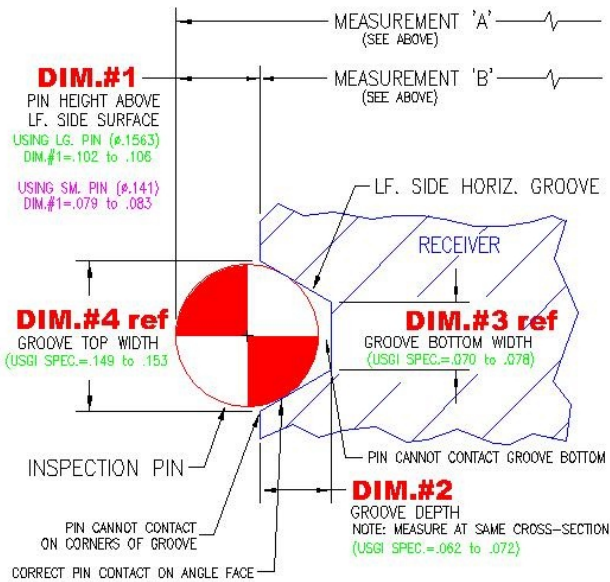

FIG. 2
5) FIND DIM.#2 BY MEASURING THE DEPTH OF THE GROOVE USING A 6" DIAL CALIPER OR DEPTH MICROMETER (BEST) (SEE FIG.2). MEASURE DEPTH AT THE SAME CROSS-SECTION AS STEP 2 ABOVE.